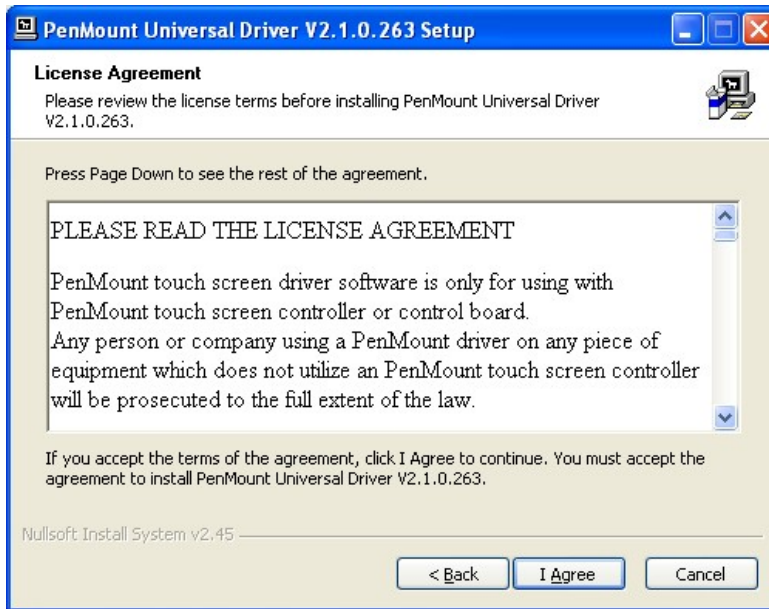

Figure 6-22: Touch Screen Driver License Agreement
Step 6: The **License Agreement** shown in **Figure 6-22** appears.